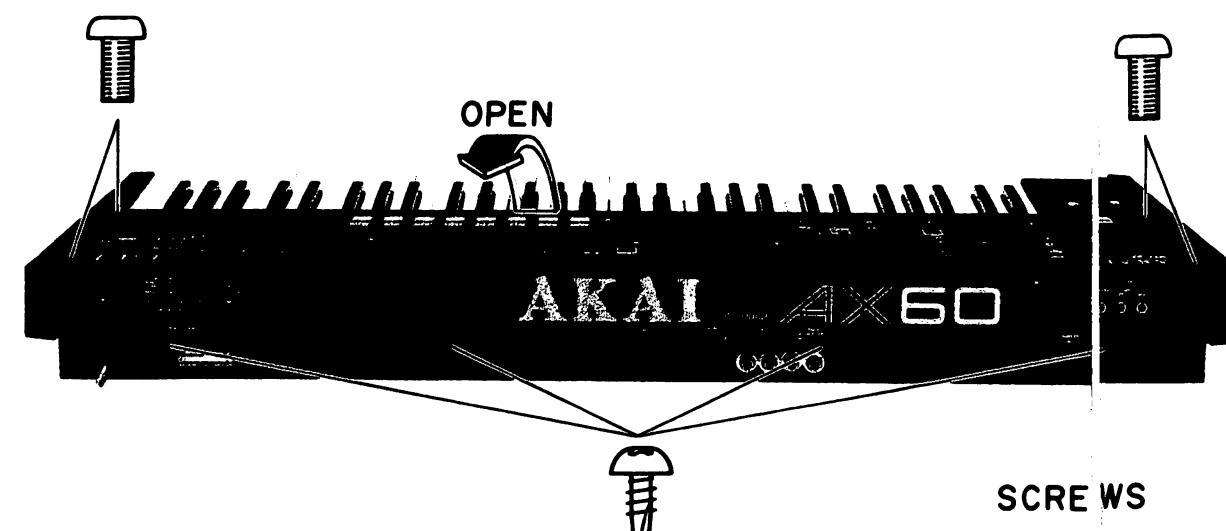
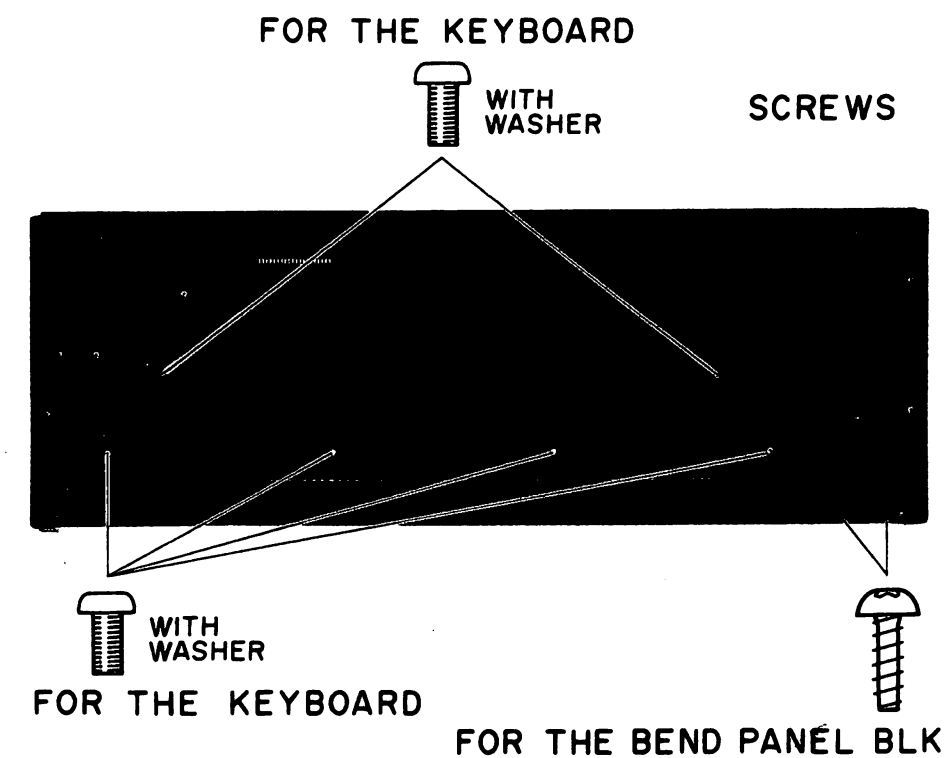
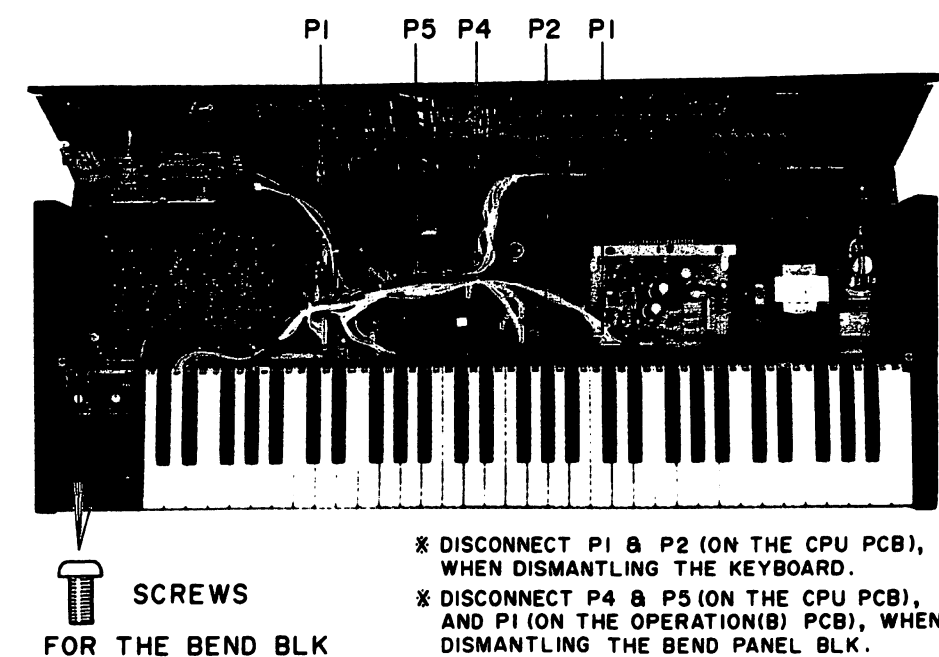

Fig. 2-1
Fig. 2-2
Fig. 2-3
2-1. HOW TO OPEN THE FRONT PANEL (Refer to Fig. 2-1)
- 1) Remove 8 screws as shown Fig. 2-1, and open the Front Panel as shown Fig. 2-3.
2-2. HOW TO DISMANTLE THE KEYBOARD (Refer to Fig. 2-2 and Fig. 2-3)
2-3. HOW TO DISMANTLE THE BEND PANEL BLOCK (Refer to Fig. 2-2 and Fig. 2-3)
- 1) Remove 6 screws as shown Fig. 2-2 and Fig. 2-3, and disconnect the connectors P4, P5 on the CPU PC Board and P1 on the OPERATION (B) PC Board.